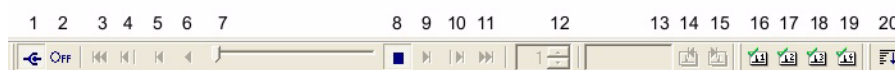
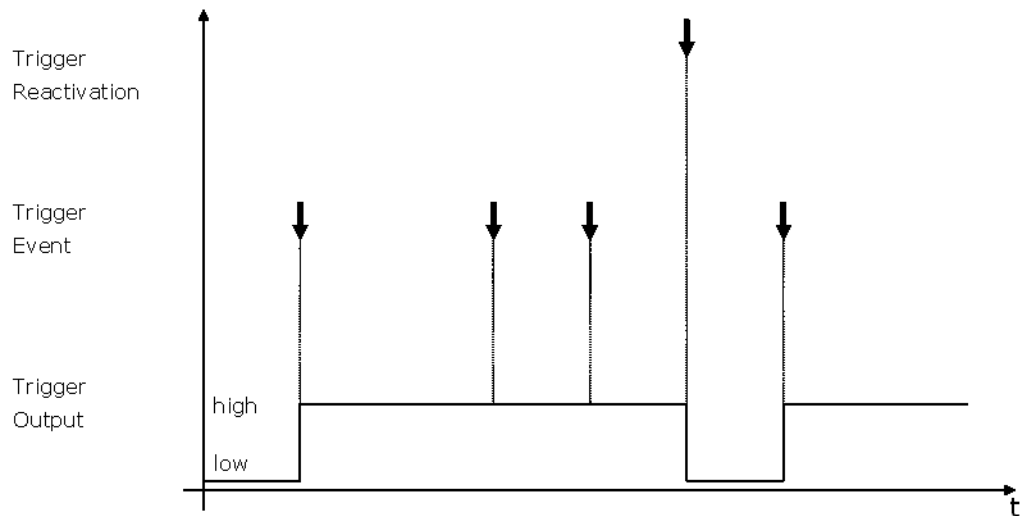

Figure 80 Triggerout Pin Properties Dialog
Figure 82 Single Pulse Mode
- *Single Pulse Mode* generates a positive edge on the *Triggerout Pin* when the trigger event occurs. Subsequent trigger events are not visible on the *Triggerout Pin* until the user reactivates the trigger. You can reactivate a trigger within the VPT1000 PC Software in the *ToolsMenu* by choosing *Reactivate Trigger Pin n*, or with the *Reactivate Trigger n Buttons* on the *Control Panel* (Buttons 16 – 19 in Figure 80). After reactivation the *Triggerout Pin* changes from high to low (see Figure 82).